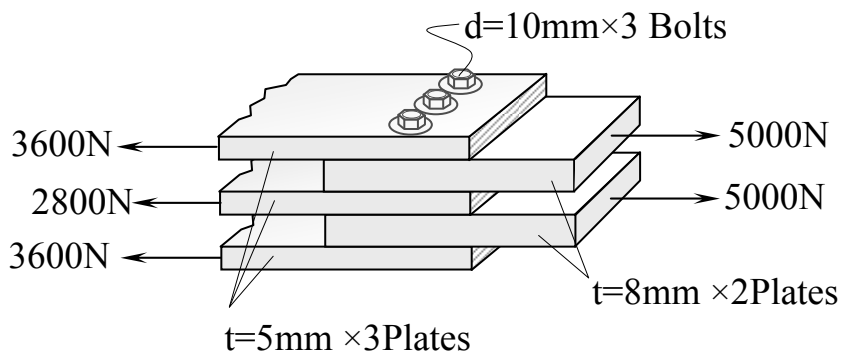

Figure. 1
1. The connection shown in the figure 1, consists of five metal plates, (plates on left side, each 5 mm thick, and plates on right side, each 8 mm thick) jointed by three 10 mm diameter bolts. The total load transferred between plates is 10 kN, distributed among the plates as shown.